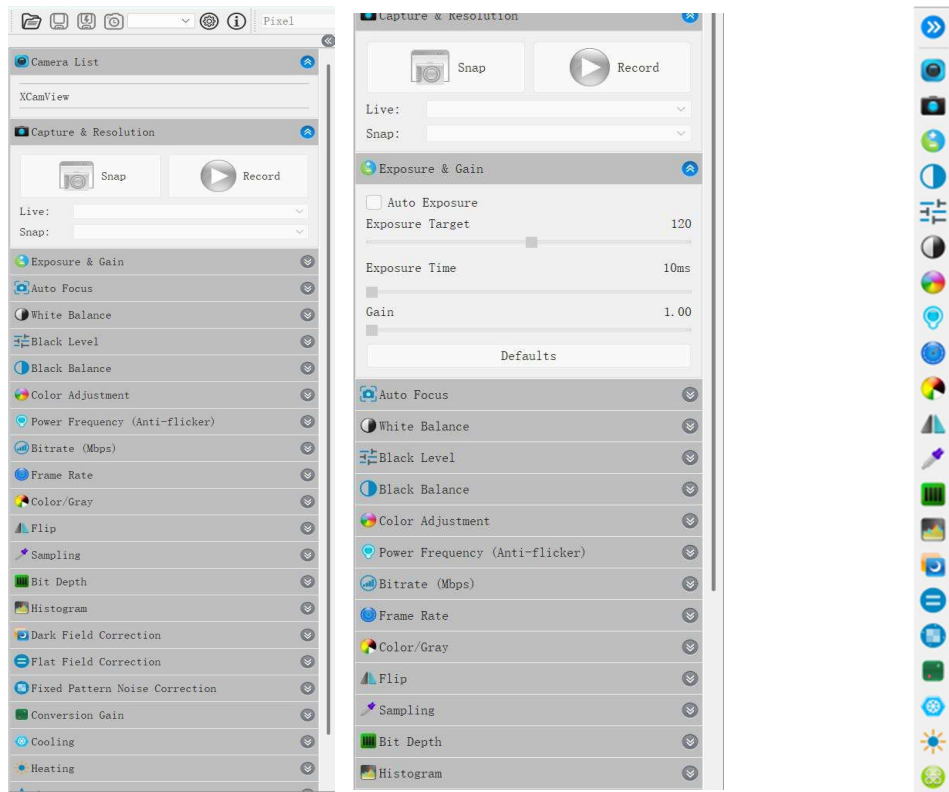

Figure 3-3 Layout Diagram of Docking Window/tools Bar on AccuView LITE Control Panel
The AccuView LITE control panel is positioned on the left side of the main interface, as shown in Figure 3-3. It features two layout modes switchable via the arrow button (red box) at the top: (1) Docked Windows and (2) Toolbar. In Docked Windows mode, a list of all control panels is displayed, allowing users to hide or expand them by clicking their titles (two left images). In Toolbar mode, only control panel icons are shown, with users clicking an icon to reveal its corresponding panel (right image).